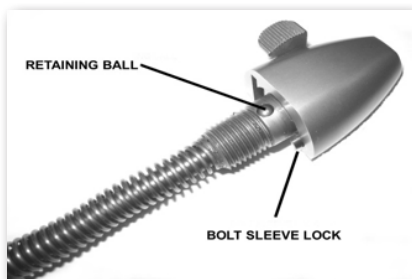

Fig. 7
1. Hold the bolt sleeve horizontally with the retaining ball hole "UP". (refer to Fig. 7)